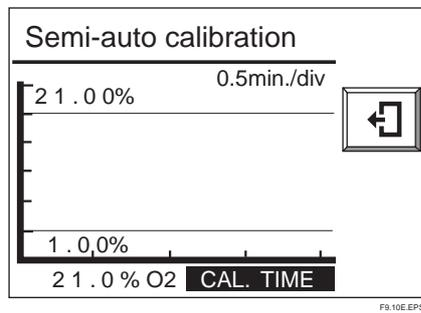

Figure 9.10 Semi-automatic Calibration Display
- (3) Select Start calibration. The display shown in Figure 9.10 appears, and then start calibration.